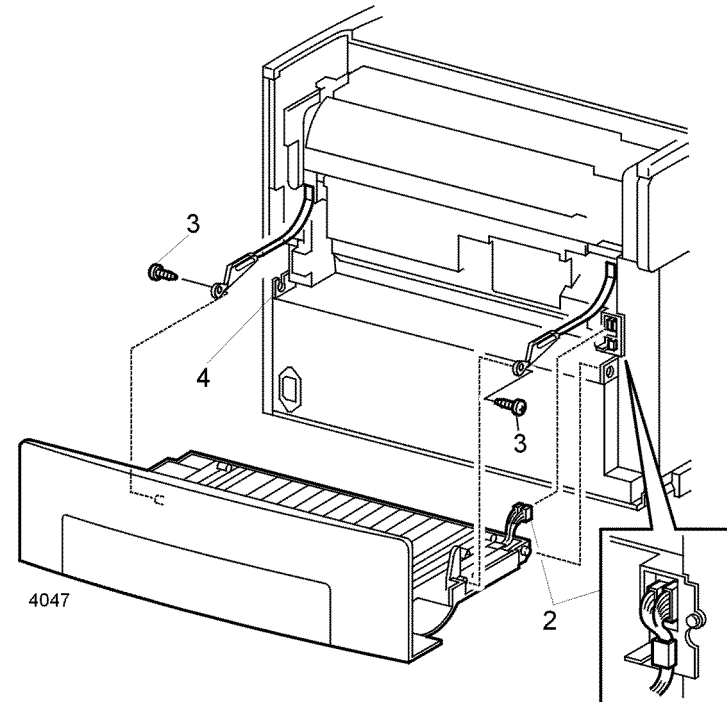

Figure 1 Rear Cover
3. Remove the two screws that secure the Rear Cover support straps to the Rear Cover (Figure 1).
4. With the cover positioned as show in Figure 1, lift the left end (as viewed from the rear of the printer) of the Rear Cover and remove (Figure 1).